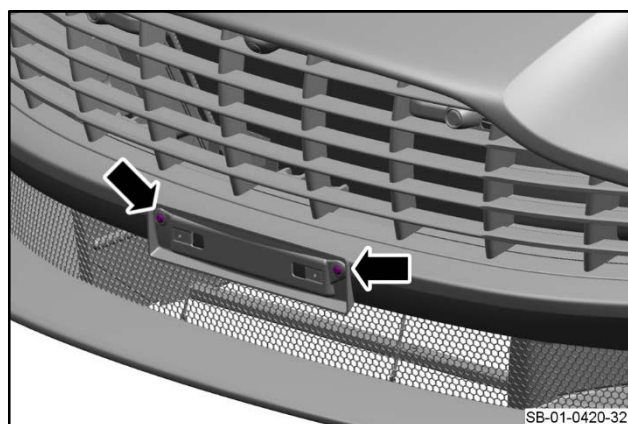

Figure 31
12. Install the two screws that attach the front license plate plinth to the bumper (refer to Figure 31).